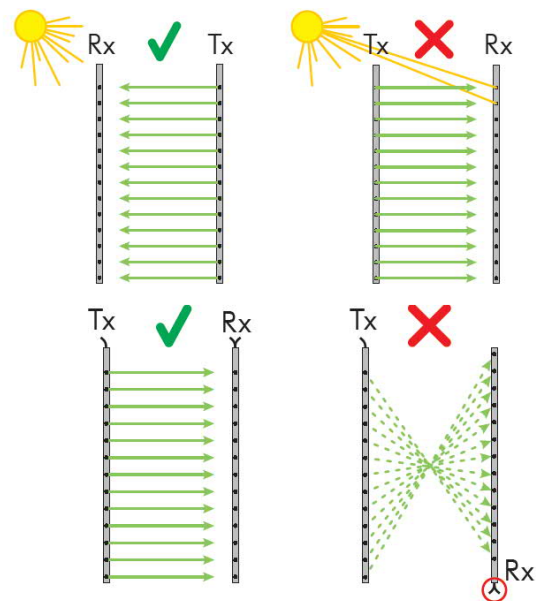

Figure 3: Installation hints
- ▶ Although the cegard/Pro (CabSafe 2D) system is insensitive to direct sunlight, avoid unnecessary exposure when possible, especially the receiver unit (Figure 3).
- ▶ Make sure to orient the connection plugs for both the emitter and receiver at the same end (Figure 3).